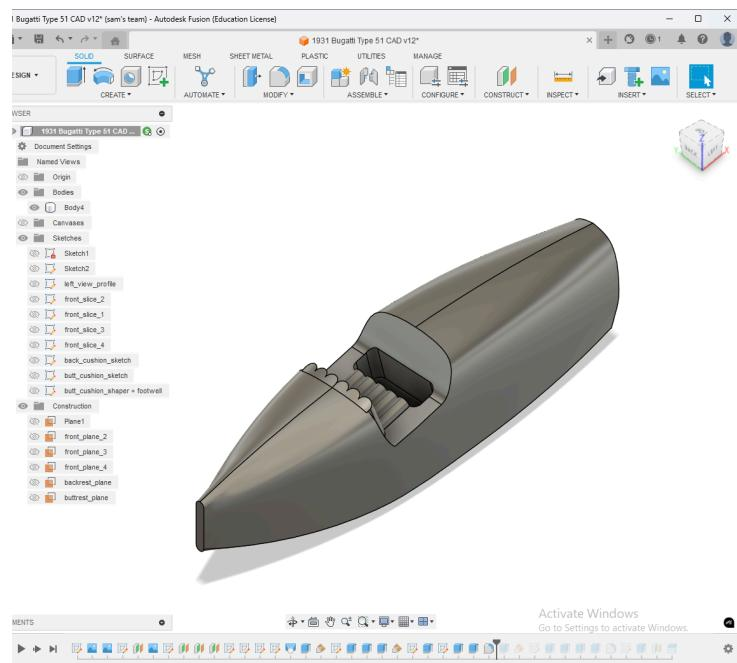

Fig. 16: Extruded leg space
5. Now, let us clear a space for the legs of the driver. A simple rectangular sketch with filleted corners will suffice. Extrude the sketch into the car body to some arbitrary length - this is purely aesthetical. See **Fig. 16** for an example.